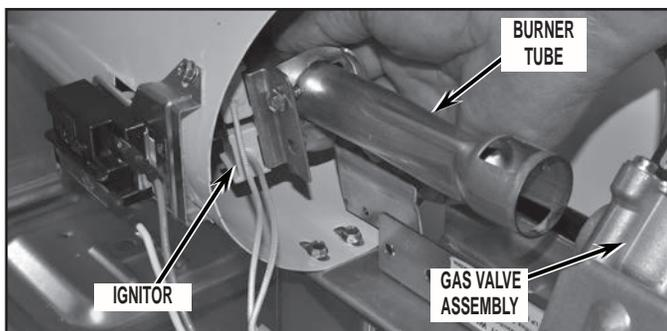

FIGURE 20
23. Slide burner tube forward far enough to gain access to orifice. Do not bump ignitor. See *Figure 20*.